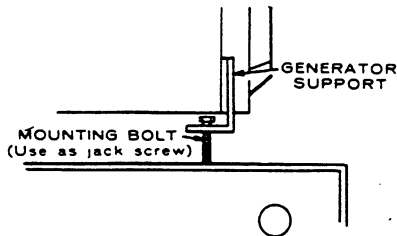

FIGURE 7
3. After determining the proper clearance for each side of the skid base, turn jackscrews in the threaded holes to allow a clearance for placing the shims between skid base and generator support (Figure 7). Lower generator (using jackscrews) and allow to rest on shims. Recheck the total generator clearance, base to support; it must equal the base to support clearance plus the 0.010-inches (0.254 mm).